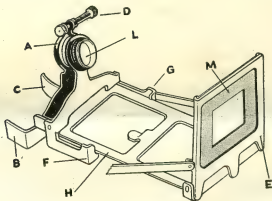

Fig. 10
*Directions*—Figure 10 is an explanatory schema of the Pathexgraph.